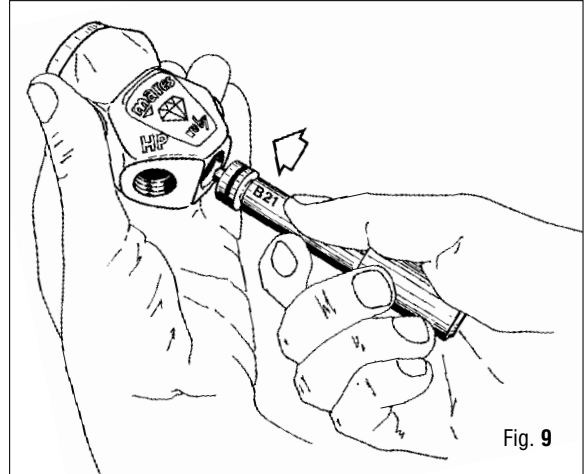

Fig. 9
9. Re-mount O-ring (74) on the poppet seat (75).
11. Lightly pressing, push poppet seat in position into First Stage body (Fig. 9).